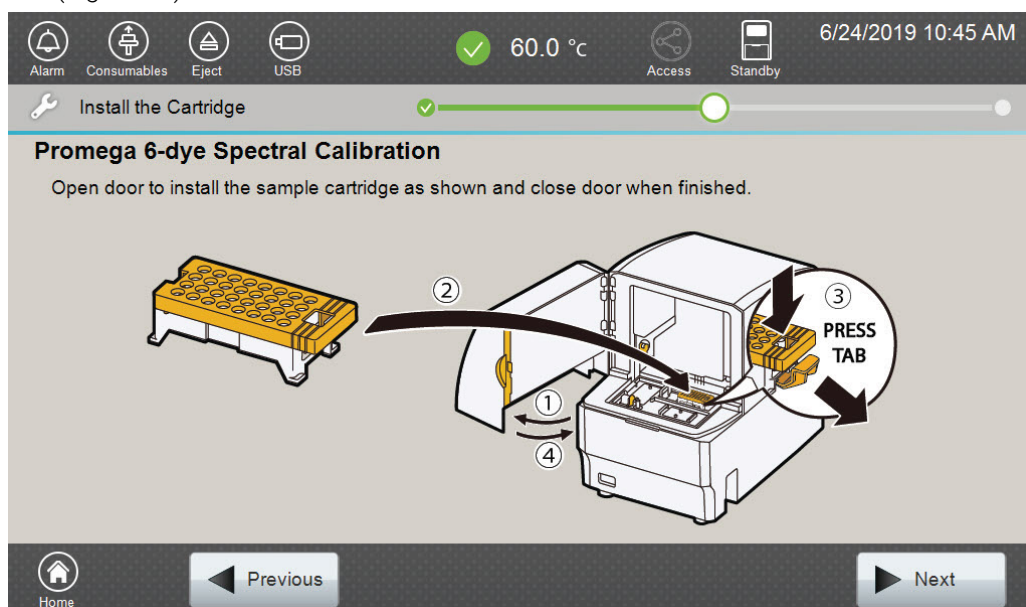

Figure 22. 'Install the Cartridge' screen.
6. Open the front door of the Spectrum Compact CE System and mount the sample cartridge on the autosampler following the instructions displayed on the 'Install the Cartridge' screen (Figure 22).